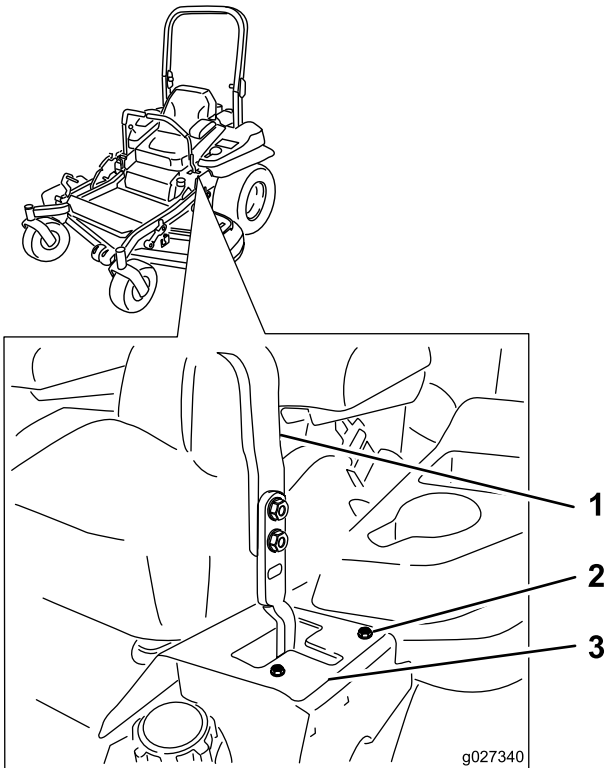

Figure 61
6. If the machine tracks to the right, loosen the bolts and adjust the left stop plate rearward on the left T-slot until the machine tracks straight (Figure 61).
7. If the machine tracks to the left, loosen the bolts and adjust the right stop plate rearward on the right T-slot until the machine tracks straight (Figure 61).
8. Tighten the stop plate (Figure 61).